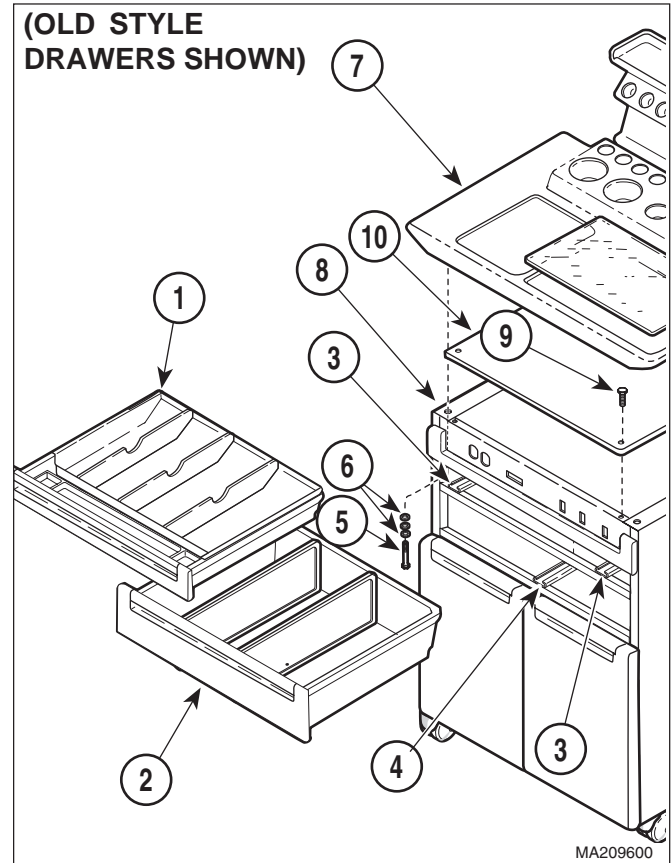

Figure 4-1. Control Box Cover Removal / Installation
- (2) Remove small drawer assembly (1, Figure 4-1) and large drawer assembly (2) from drawer guides (3 and 4).